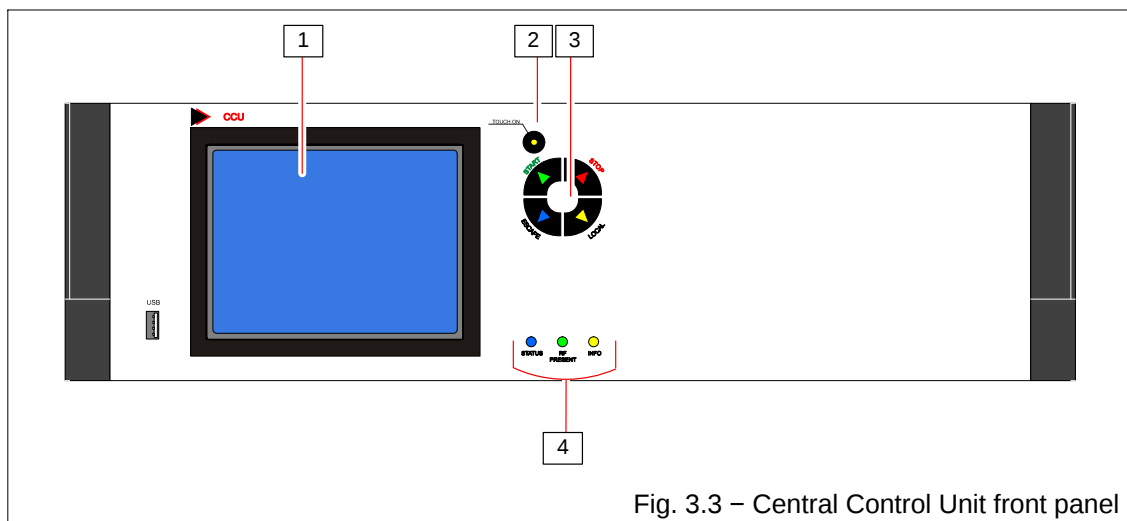

Fig. 3.3 – Central Control Unit front panel
| Tab. 3.3 | – Central Control Unit front panel legend (ref. Fig. 3.3) ..... | 51 |
| Fig. 3.3  | – Central Control Unit front panel .....             | 51 |
- Tab. 3.3 refers to Fig. 3.3 which is the call out of “Central Control Unit” front panel
| Tab. 3.3 – Central Control Unit front panel legend (ref. Fig. 3.3) |                                                                                     |                                                                                                                                                                                                                                                                                                                                                                                                                                                                                                                                                                                                                                                                        |